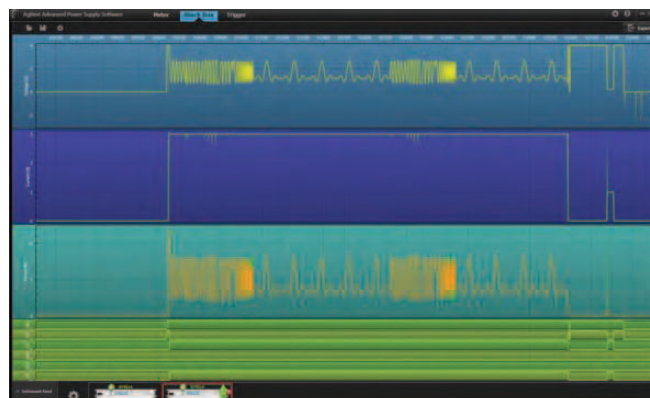

Figure 9. Black box recorder data displayed within the N7906A Power Assistant software
Much like a flight data recorder, the N7908A black box recorder (BBR) runs continually in the background, independent of what the power supply is doing. When the power supply is on, the BBR is recording power events and making measurements in non-volatile memory. The BBR can be set for either a 24-hour record or a 10-day record period. In the 24-hour mode, measurements are made at a rate of 100 per second, and in the 10-day mode they are made at a rate of 10 per second. The BBR data can be accessed via the free APS power assistant software (see *Figure 9* on page 9). The BBR is a user-installable hardware option, and it works in all APS N6900 and N7900 power supplies. You can purchase the N7908A BBR with an APS power supply or buy it later and install it in your existing APS power supply. The BBR hardware board plugs into the bottom of an APS power supply, as shown in *Figure 8*.
- Retrieve and view data from the optional APS power supply black box recorder (see Figure 9)